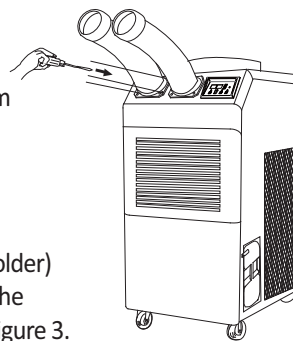

Figure 4
3. Use screws (enclosed inside of box with cool air outlet hose(s) to install the cool air outlet hose(s) on the air conditioner as shown in Figure 4.